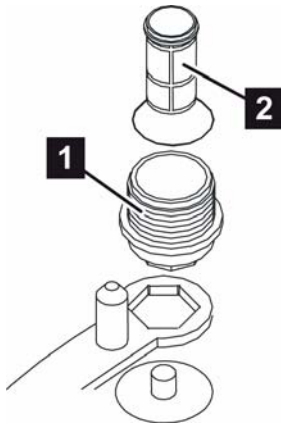

Fig. 65: Debris collector sieve
1. Unscrew the pressure reducer's screw plug (Fig. 65/1).
2. Take out the debris collector sieve (Fig. 65/2) and clean it